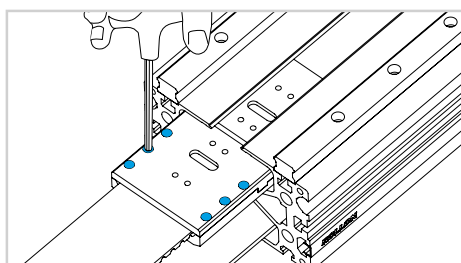

Fig. 14
- 15) Move the inner carriage to the end of the profile, remove the belt-tightening screws and remove the belt (Fig. 14).
- 18) Move the inner carriage to the end of the profile and remove the belt tightening screws (Fig.14).